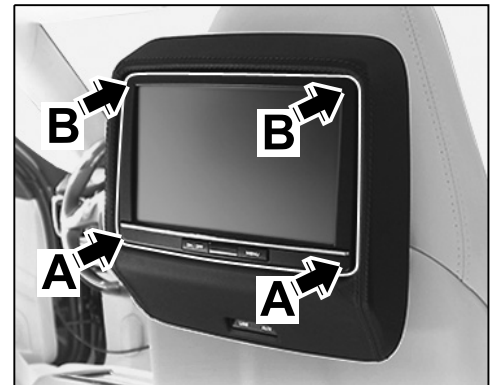

Figure 5
- 3.4 Check that you can swivel the screen. Place your thumbs on the outer part of the chrome strip ⇒ *Figure 5* -**arrow A**- and press the screen inwards. Then swivel the screen back by pressing ⇒ *Figure 5* -**arrow B**-. Loosen the display unit if necessary and check the line routing. See Step 2 (Remove display unit).